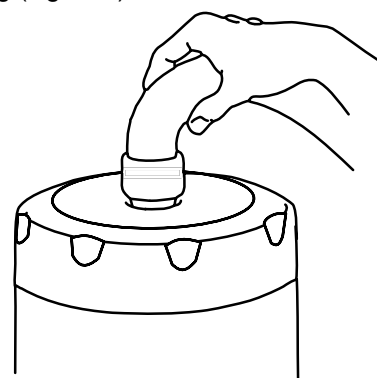

FIG. 2
3. Replace the cap. Push the hose into the cap opening (Figure 2).